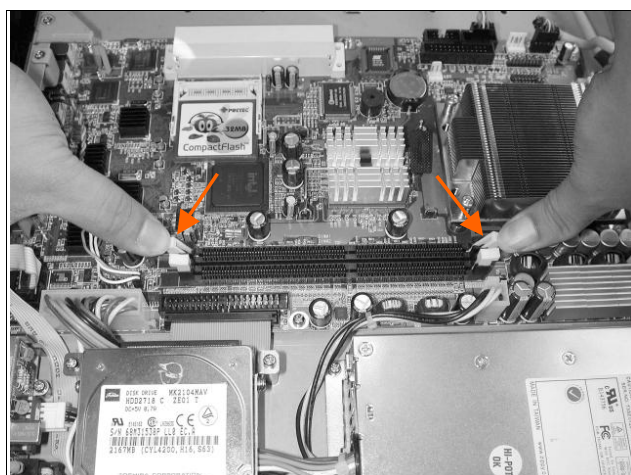

Fig. 2-3
1. Pull out the lock arms on both side and the RAM module springs up automatically. (**Fig.2-3**)